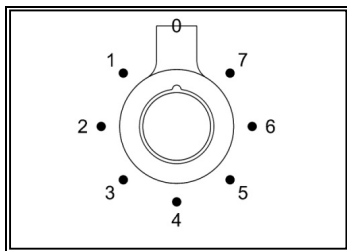

Fig 27
- Press and turn the knob (Fig.27) anti-clockwise to the selected position.